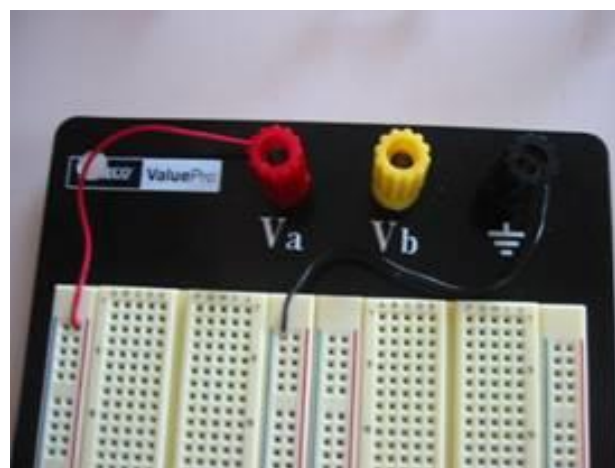

Figure 3. Typical use for the blue and red columns of holes is to supply power to the circuit.
The holes in the column that is located immediately to the left of the red line are connected together. Similarly, the holes in the column to the right of the blue line are connected together; those columns are used to carry, power, ground, or other signals that must be accessed from many parts of the circuit. Figure 3 shows a typical use for one set of red and blue column holes used to supply power to the circuit. Here, the red column holes are connected to the red binding post (labeled V_a), and the blue column holes are connected to the black post (labeled by the ground symbol). A pair of banana plug test leads originating from (say) a DC power supply, can now be connected to the red and black binding posts.
- Connect the power supply (or function generator) to the available posts on the protoboard. The circuit can then be supplied power by making connections with the posts, as shown in Figure 3. This should help make the connections to the power supply mechanically more stable.